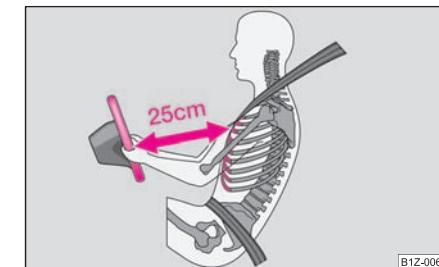

Fig. 120 Safe distance to steering wheel
- For the driver and front passenger it is important to maintain a distance of at least 25 cm from the steering wheel or dash panel ⇒ page 110, fig. 120. Not maintaining this minimum distance will mean that the airbag system will not be able to properly protect you – hazard! The front seats and the head restraints must always also be correctly adjusted to match the body size of the occupant.